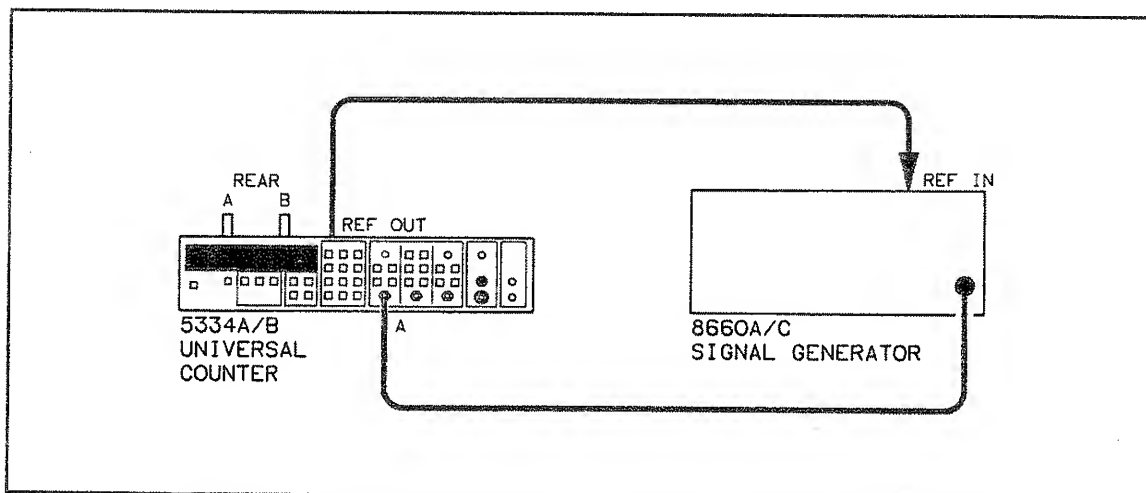

Figure 4-6. Channel A Frequency and Sensitivity Setup for Option 060
4. Connect the signal generator to the HP 5334A/B front panel Input A as shown in Figure 4-6.